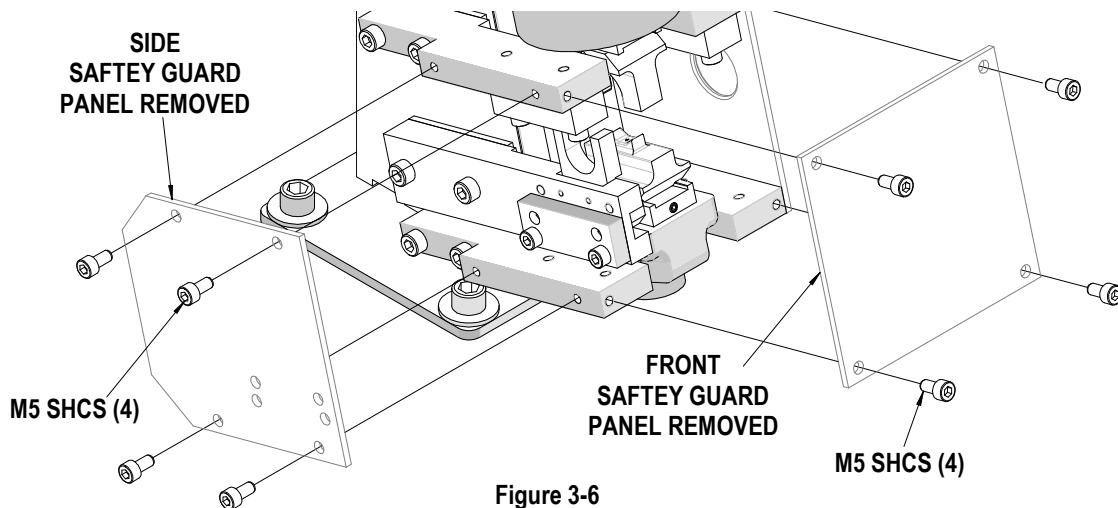

Figure 3-6
6. Remove the (8) eight M5 SHCS holding the front and side safety guards.
7. Remove the safety guards. See Figure 3-6.